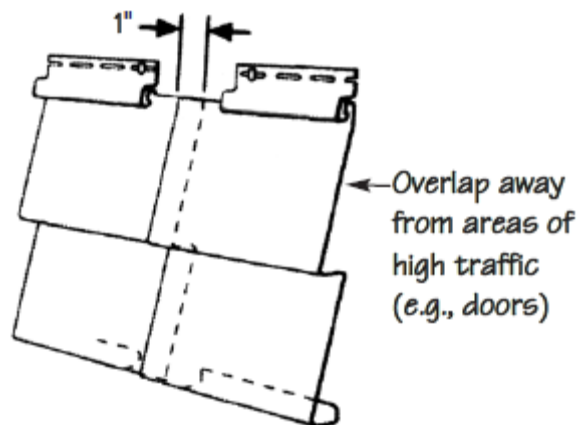

Figure 11-7. Siding Overlap.
2. Install every piece with a 1" overlap between pieces and a minimum of ½" space between the top locks. Also, maintain a ¼" gap at the corners (to allow for expansion) and ends of pieces, including corner posts, J-channel, windows, J-blocks, etc. (see Figure 11-7). Overlap the siding pieces such that in high traffic areas, one cannot see into the overlapped joint.